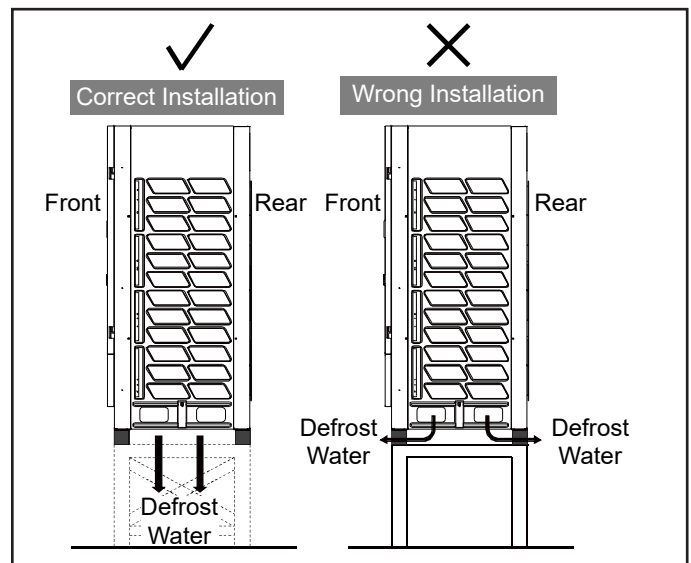

Figure 8. Secure Unit to Weather Resistant Support
- A VRF system consisting of more than two outdoor units must be placed in order from the largest to the smallest capacity. See figure 8.